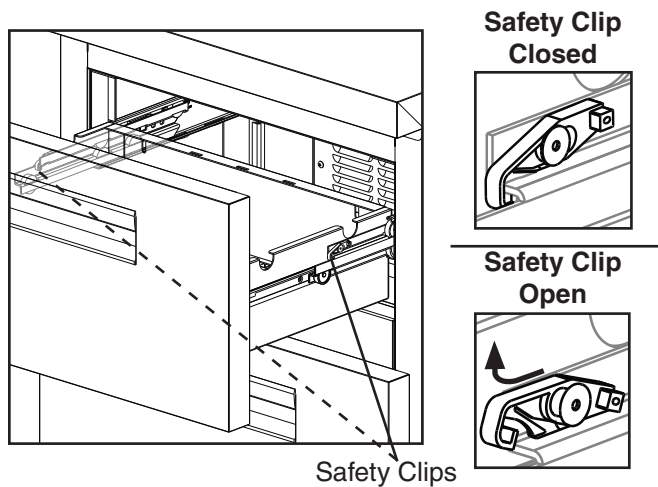

Fig. 21
- **To remove a drawer:** Remove all items from the drawer. Pull the drawer out to its fully extended position. Open the safety clips (one on each side) by sliding them forward, then rotating them up. See Fig. 21. Lift up on the handle slightly, then pull to disengage the drawer. Be sure to support the rear and front of the drawer while removing it.